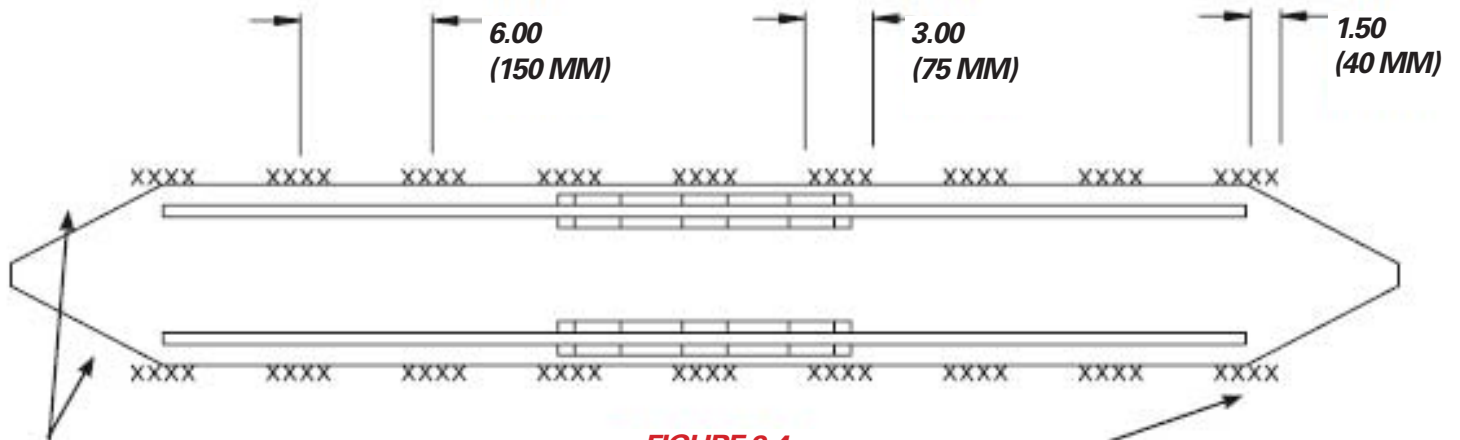

FIGURE 3-4
10. Weld the pad in position using E7018 low hydrogen welding rod. Make 1/2" (12.7 mm) fillet welds, 3" (78 mm) long, 6" ((150 mm) on center (see figure 3-4). Run out welds 1-1/2" (40 mm) on ends and grind to taper in both the side view as shown in figure 3-5 and in the top view figure 306.
Under no circumstances should the mounting pad be welded around the ends (see figure 3-4).